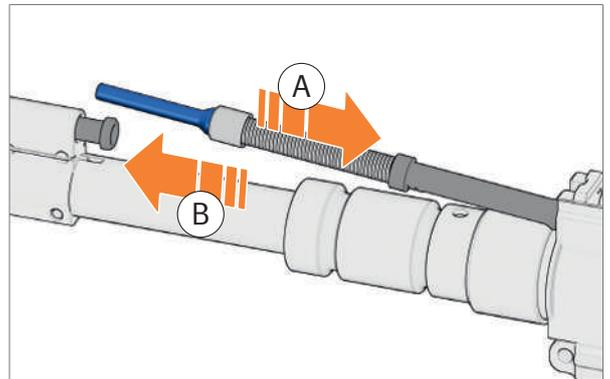

Fig. 122: Insert rod
2. Insert rod into receiver in assembly position (Fig. 122).
3. Press rod to the rear against spring force and insert into gas piston (Fig. 122).